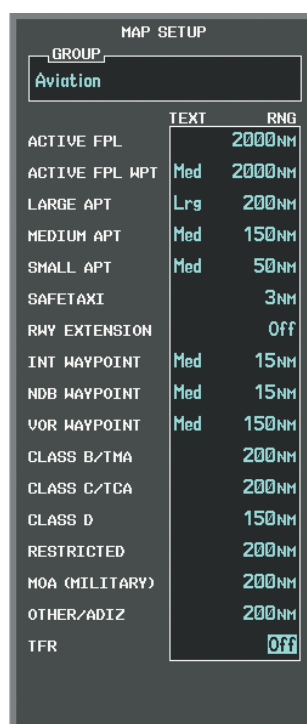

Figure 6-53 Navigation Map Page Setup Menu, Aviation Group
- 5) Turn the large **FMS** Knob to scroll to the TFR product range setting (Figure 6-53).